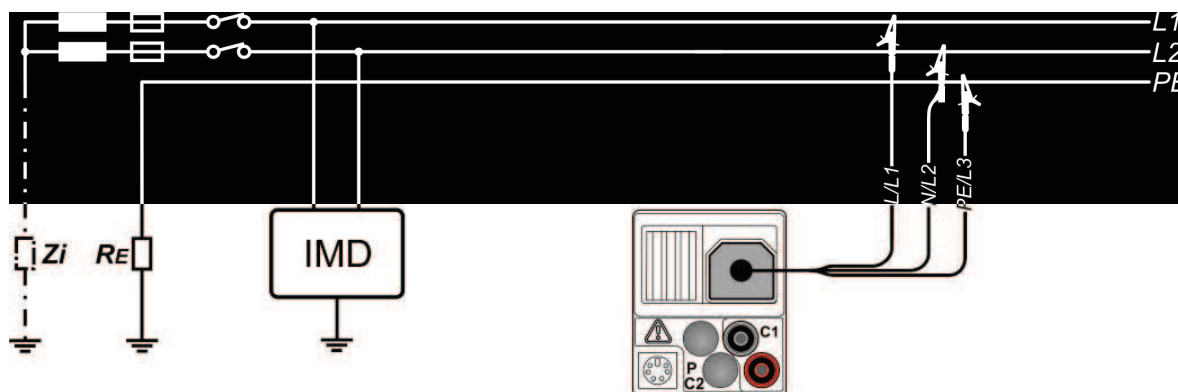

Figure 5.42: Connection of the three-wire test cable
- ❑ Connect the test cables to the test object (see figure 5.42 and 5.43).